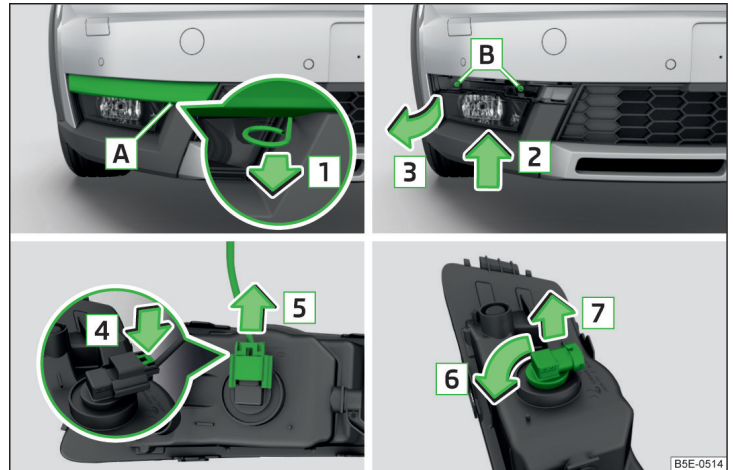

Fig. 229 Remove the fog lamp / bulb change - Version 2
- Insert in opening **A** » Fig. 229 the clamps for removing the full wheel covers » page 212, *Vehicle tool kit*.
- Replace the fog light by inserting it in the opposite direction of the arrow **3** » Fig. 229 and tighten.